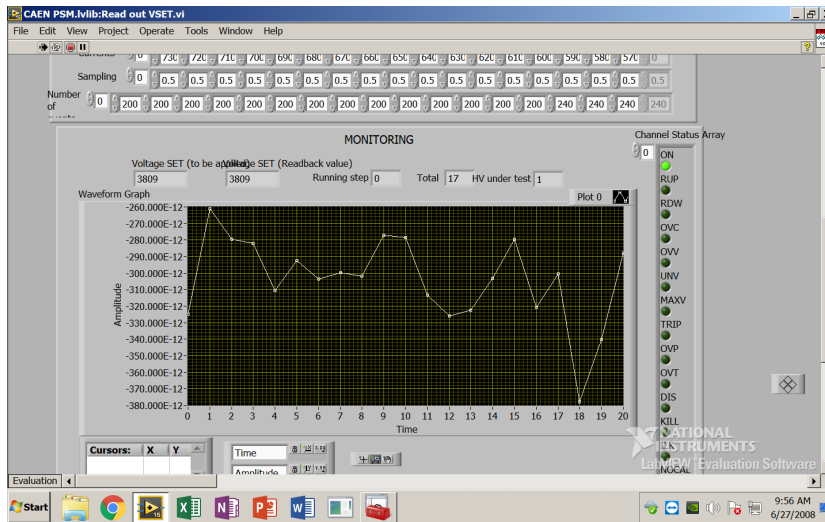

Figure 29: The monitoring window in LabView.
11. Scroll down and observe the MONITORING window (fig. 29). For source ON, one should observe -0.4 to -0.9 nA at the largest current.